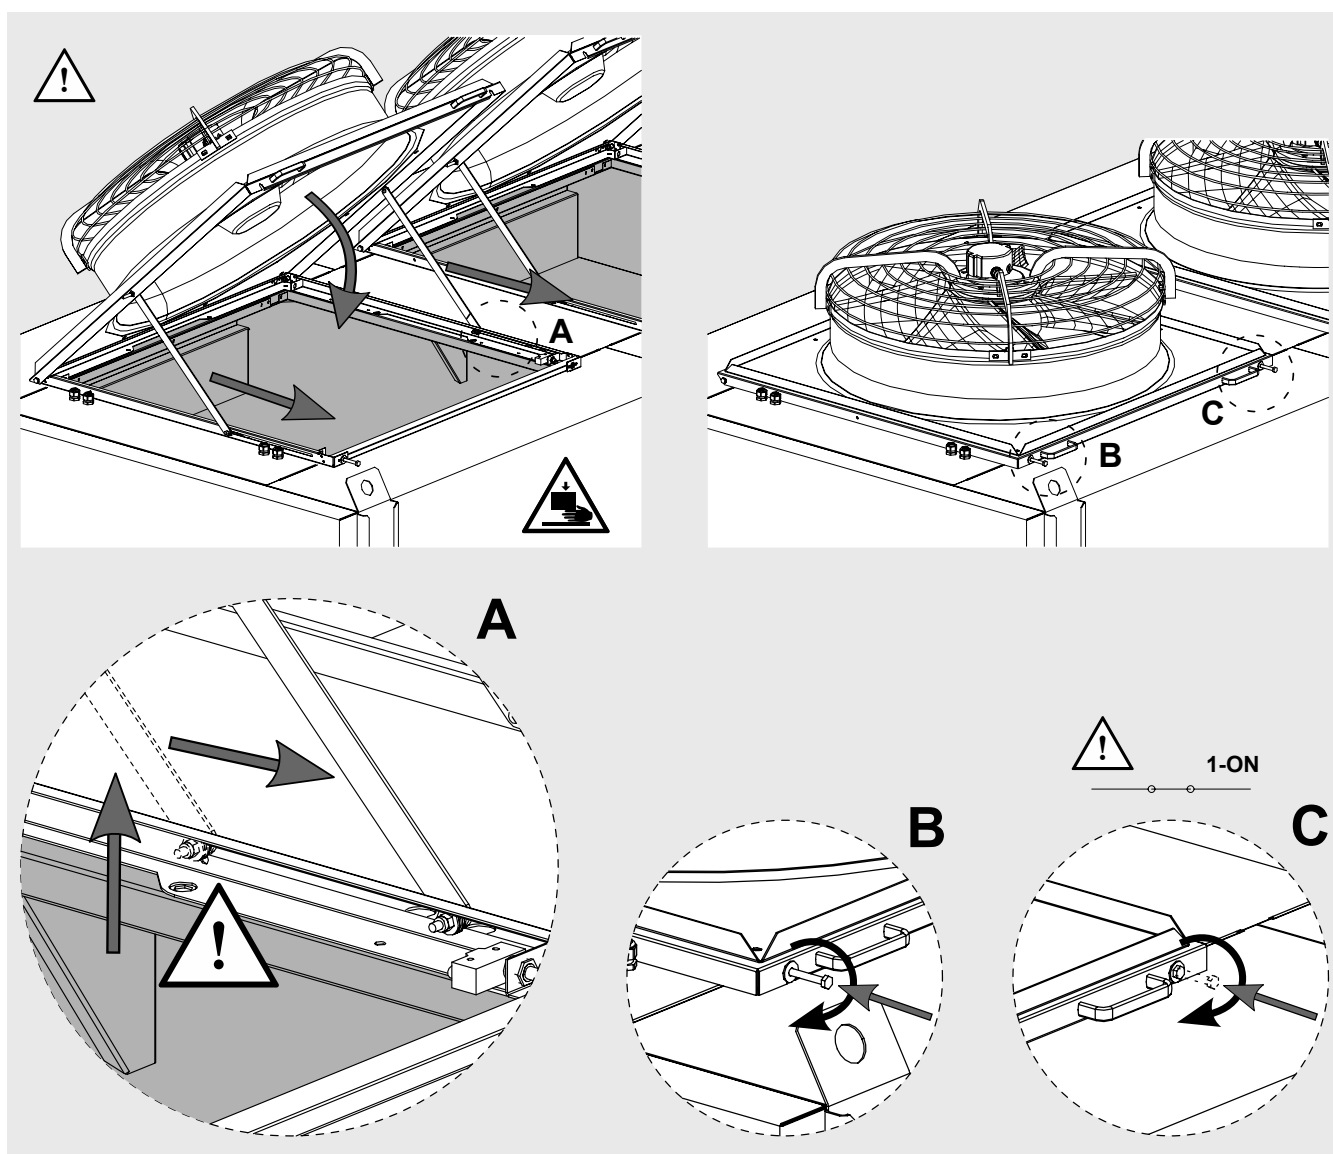

Figure 3
- 3.10.9 When the inspection or maintenance is over, the frames can be closed back in position: take the frame handles with one hand, with the other one free the side levers from the blocking position and make them slide backwards. The upper frame folds down on the lower one. See "Figure 3". It is recommended the use of PPE (see Chapter 4).